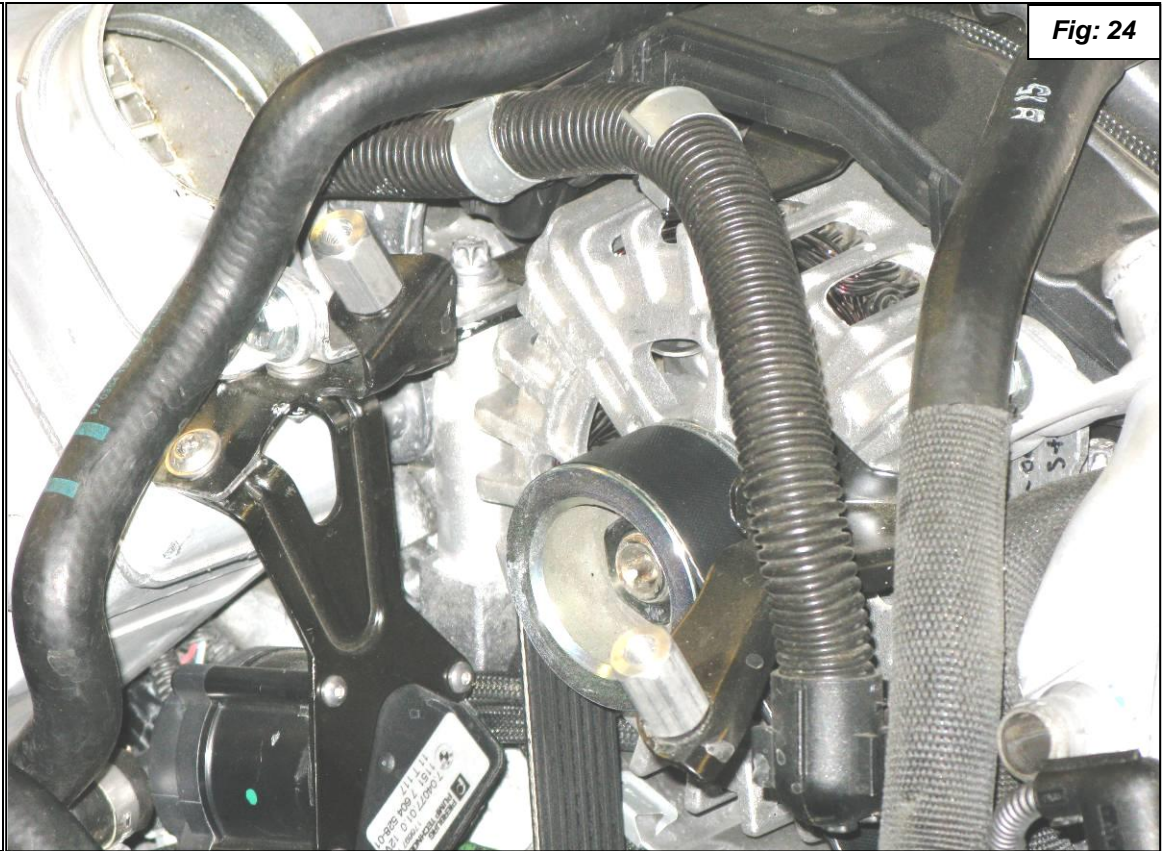

Fig: 24
15. Install the 6mm Male-Female threaded hex standoffs as shown in figure 24.